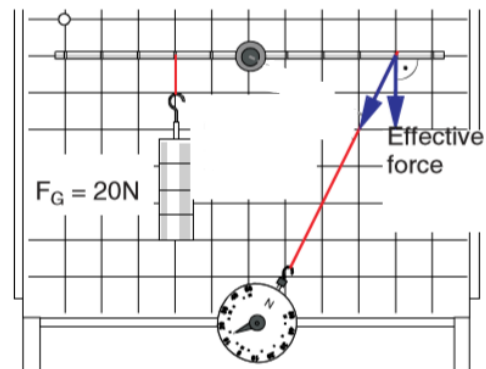

Figure 10: Simple levers II
- 3) Adjust the dynamometer to the setup shown in Figure 10.